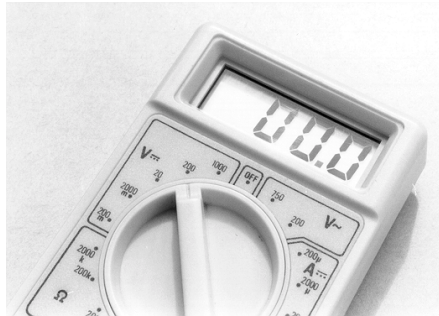

Fig. 5
- (b) (ii) The display of the multimeter shown in Fig. 5 is a liquid crystal display (LCD).